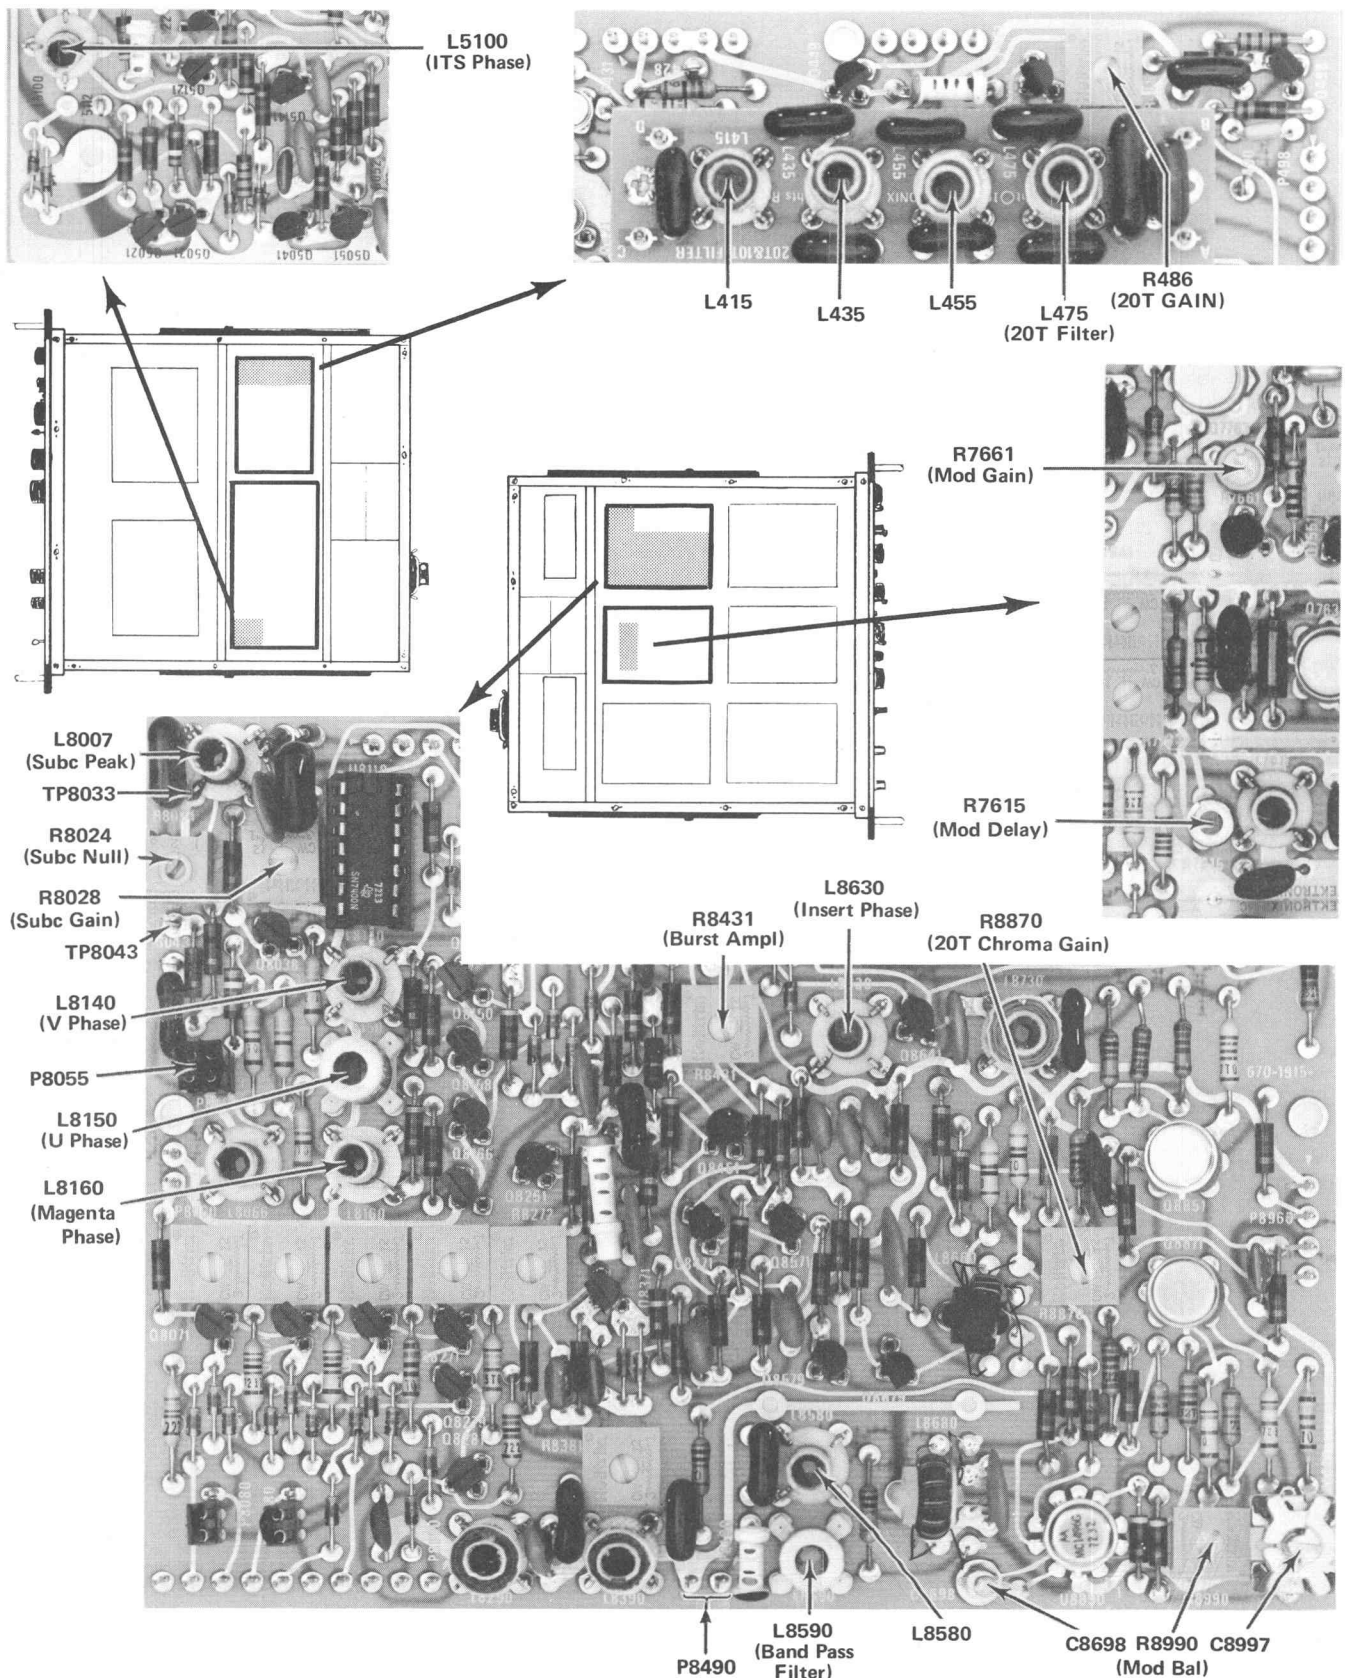

Fig. 4-13. Modulated pulse adjustment pin connector and plug location.
b. Refer to Fig. 4-13 for all adjustments in this group.
ADJUST—R7615 (Mod Delay); L8580, L8590 (Band-pass Filter); R8870 (20T Chroma Gain); R486 (20T Gain); R7453 (P & B Sync Level); and L415, L435, L455, L475 (20T Filter) for a  $\text{Sin}^2$  Pulse with characteristics given. (Refer to the adjustment sequence in GROUP 6, and Fig. 4-13.)